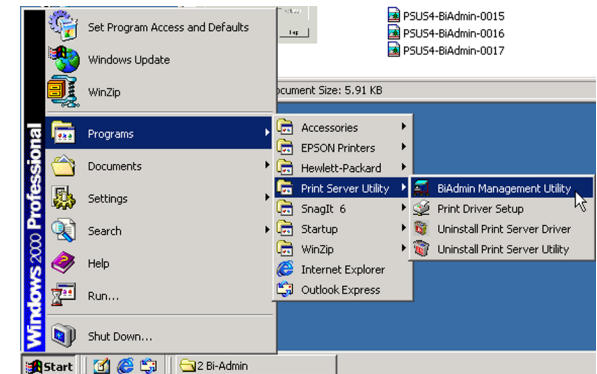

Figure 8-6: Connected Protocol
1. To start the Bi-Admin program, click on **Start, Programs, Print Server Utility**, and then **Bi-Admin Management Utility**, as shown in Figure 8-6. If the Bi-Admin Management Utility icon has been created, you can just double-click on it instead. You can drag the shortcut icon onto your Desktop for easy access to the Bi-Admin Management Utility.